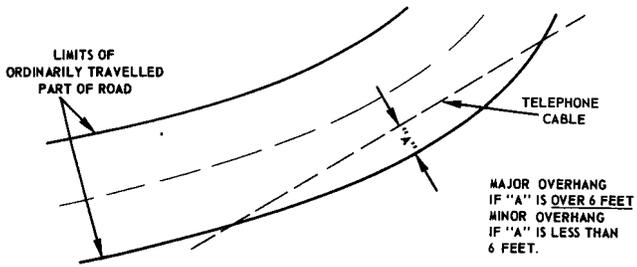

Fig. 4—Overhang—Running Along Public Roads
1.07 Note that greater clearance is required for cable overhanging the travelled part of roads than for cable when no overhanging is involved. Also, in some cases, greater clearance is required for "major" overhang than for "minor" overhang (see Fig. 4). Eliminating or minimizing road overhang will generally reduce pole height requirements.